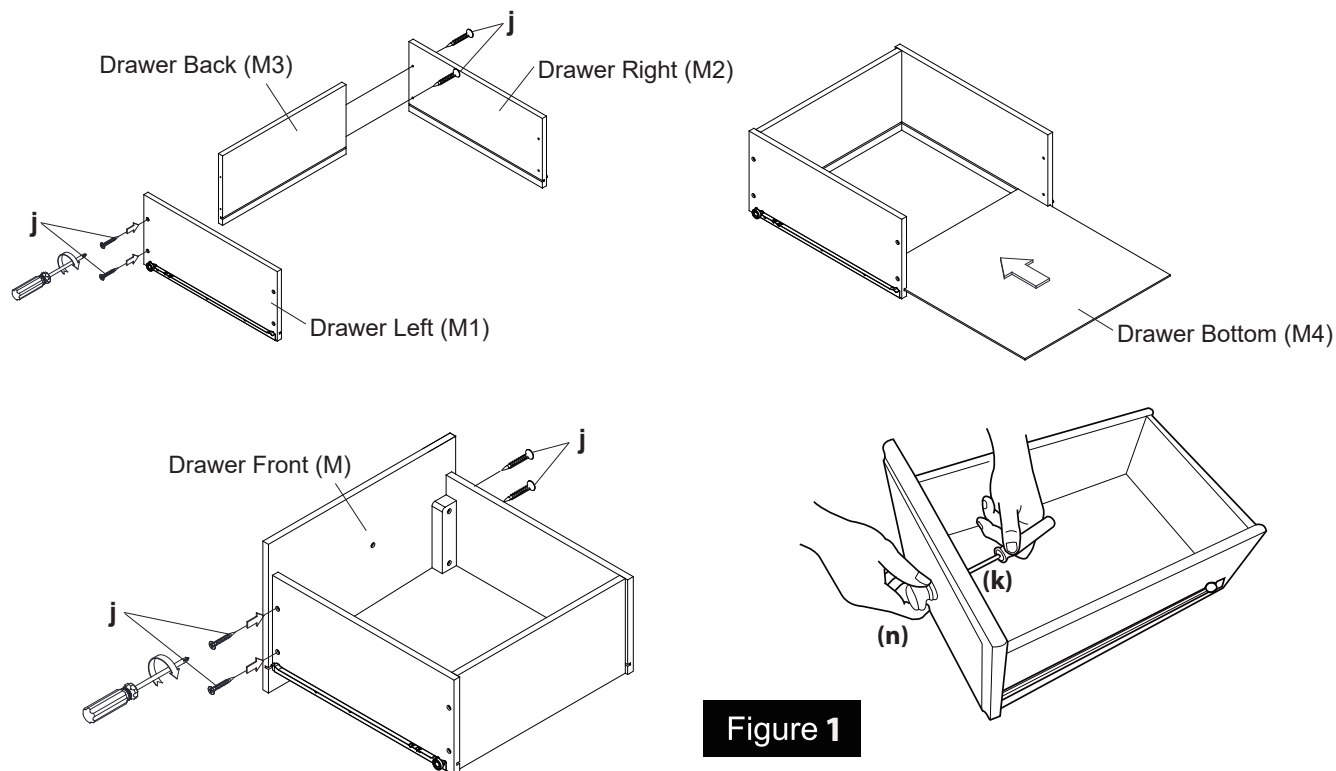

Figure 1
STEP 1 Drawers Assembly as Shown on Figure 1.
- C.** Install Screws (e) into Drawer Sides (M1&M2) and align with pilot holes located in the mounting blocks of Drawer Front (M).Tighten using Phillips screw driver(not included) .
- E.** Repeat for all drawers. Set drawers aside for later use. See Figure . 1
1. Locate safety belt bolted to dresser top. Insert safety belt through slit in changing pad from back of pad. **Figure 1.**